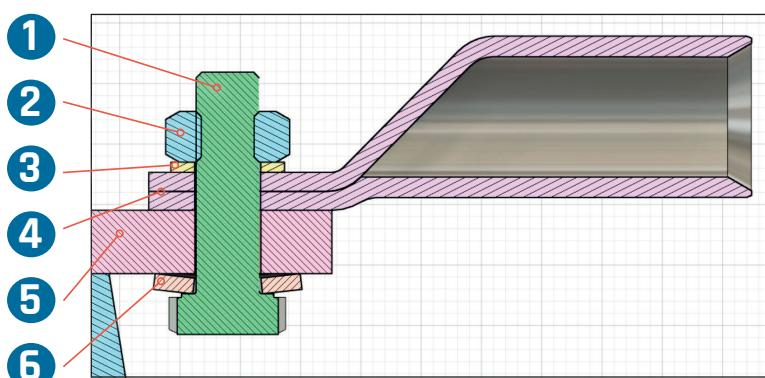

Fig. 21: Screw connection of AC-PE-N-connection clamp
- Observe the correct structure of the screw connection according to Fig. 21